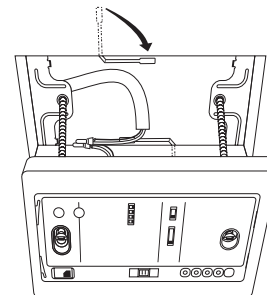

Fig. 3-28
7. Return parts (A) and (B) through the gap between the ceiling and receiver unit so that they are contained in the openings. Then tighten the screws. Do not tighten the screws excessively. This may result in damage or deformation of the case. Tighten to the point where the receiver unit can be moved slightly by hand. (Fig. 3-28)